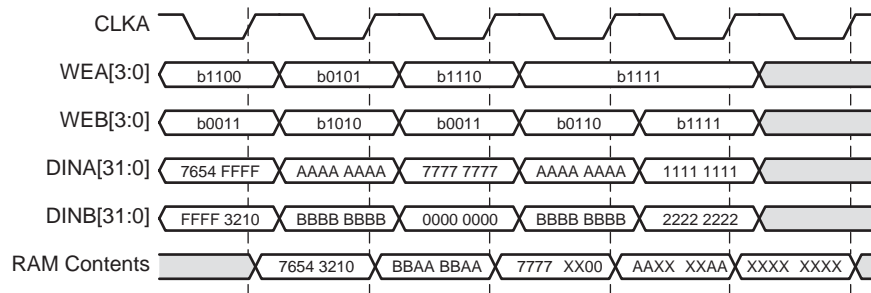

Figure 32: Write-Write Collision Example
- **Using Byte-Writes.** When using byte-writes, memory contents are not corrupted when separate bytes are written in the same data word. RAM contents are corrupted only when both ports attempt to Write the same byte. Figure 32 illustrates this case. Assume ADDR_A = ADDR_B = 0.